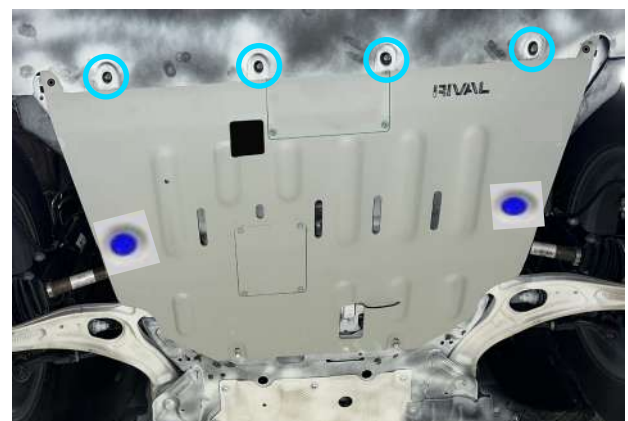

Fig. 4
4. Secure the bumper to the skid plate using M6x30 bolts (item A) and M6 washers (item C) as shown in fig.4.